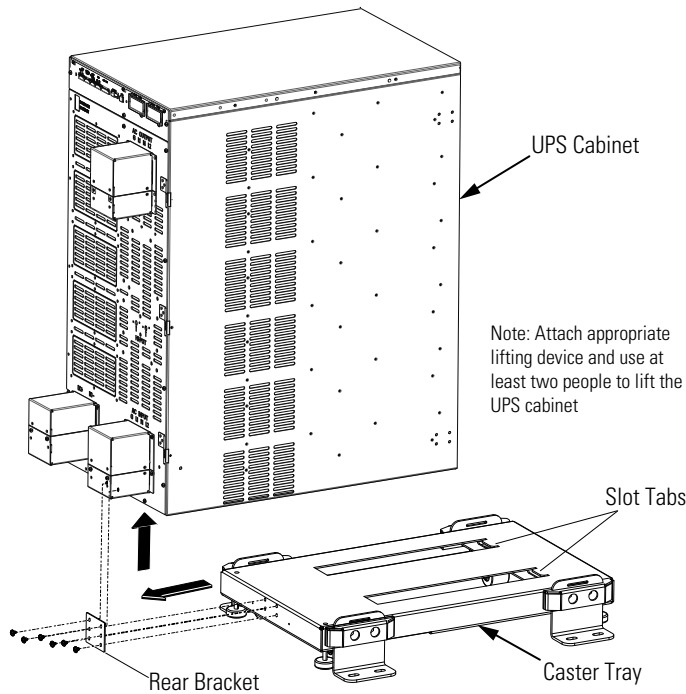

Figure 12. Remove Cabinet from Caster Tray
- 3. Remove the cabinet from the caster cart as follows (see Figure 12):